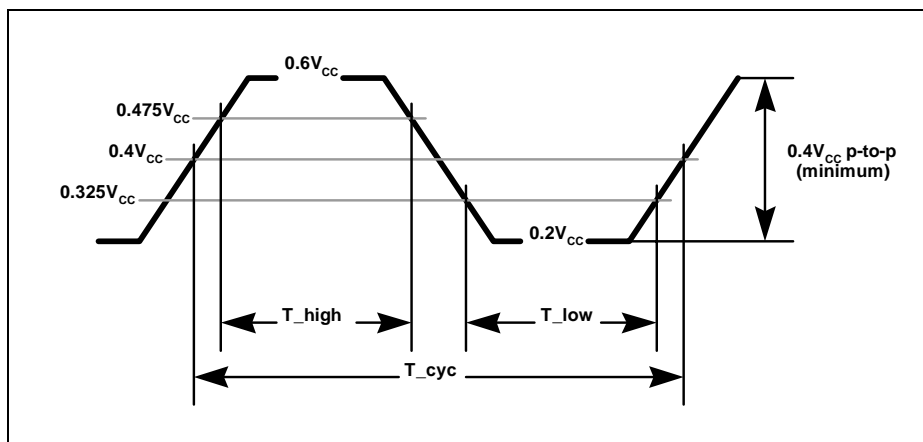

Figure 31. PCI/CardBus Clock Waveform
The 82559 uses the PCI Clock signal directly. Figure 31 shows the clock waveform and required measurement points for the PCI Clock signal. Table 37 summarizes the PCI Clock specifications.
2. Rise and fall times are specified in terms of the edge rate measured in V/ns. This slew rate is met across the minimum peak-to-peak portion of the clock waveform as shown in Figure 31.